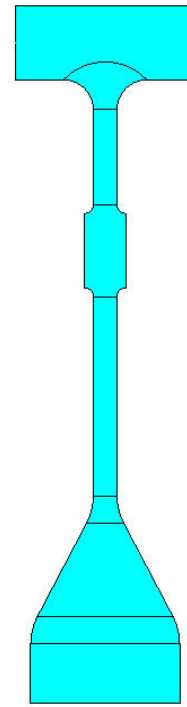

Fig. 6.3. Creating areas
11) Create areas along the lines as shown in Fig. 6.3;